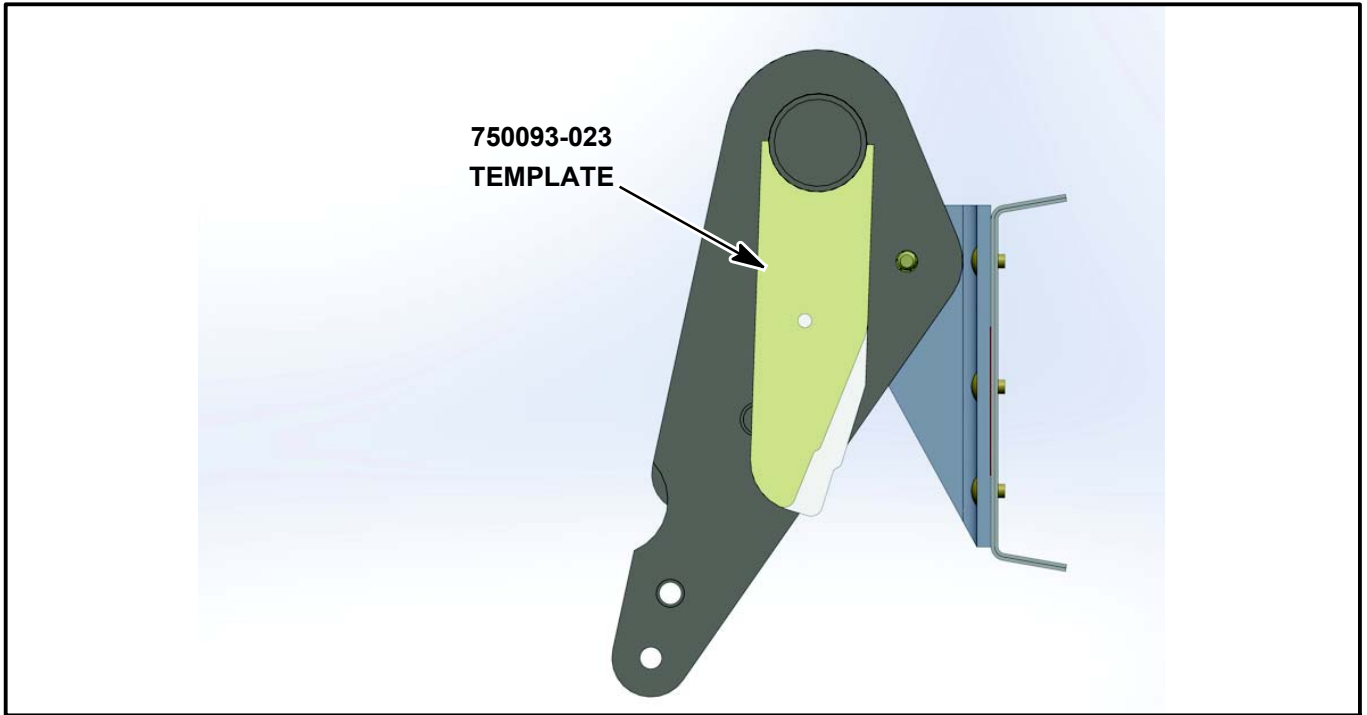

Figure SIM20-142-10 - CLAMP 750093-023 TO FLAP ACTUATOR ARM
- b. Clamp template in place. (Refer to Figure SIM20-142-10.)